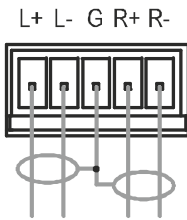

Figure 6: Balanced Stereo Audio Output Connection
- A balanced stereo audio connection, see Figure 6